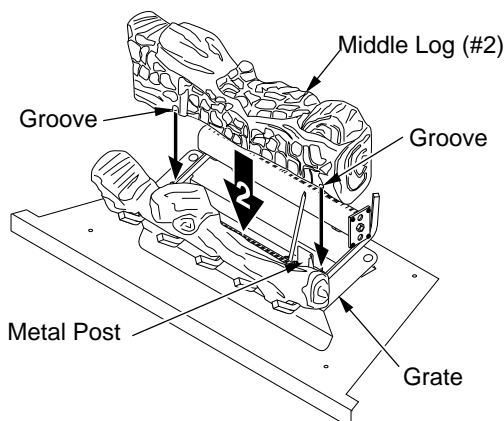

Figure 25 - Installing Middle Log (#2)
2. Rest middle log (#2) behind metal posts on grate assembly. Make sure the grooves in the bottom of the log fit over the grate. Bring the log forward next to the metal posts (see Figure 25, page 14).